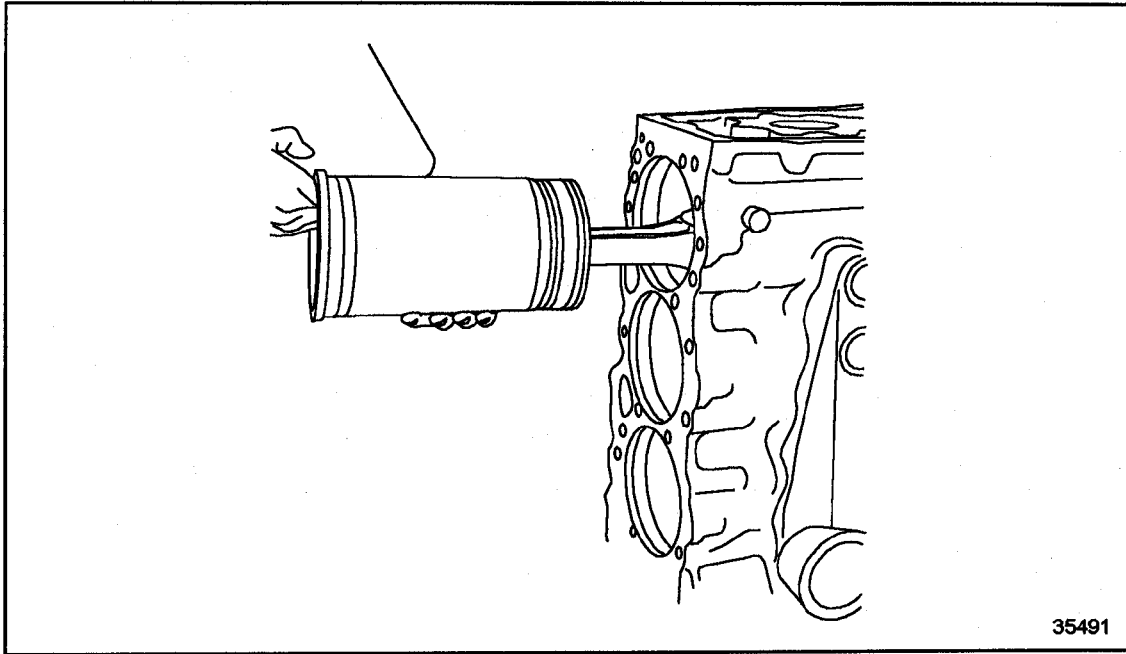

Figure 1-275 **Installation of Liner, Piston and Rod Assembly into Engine Block**
19. Slide the cylinder kit assembly into the cylinder block noting the position of the connecting rod to ensure the rod is assembled to the same position as it was when removed. Push by hand until resistance is felt. See Figure 1-275.